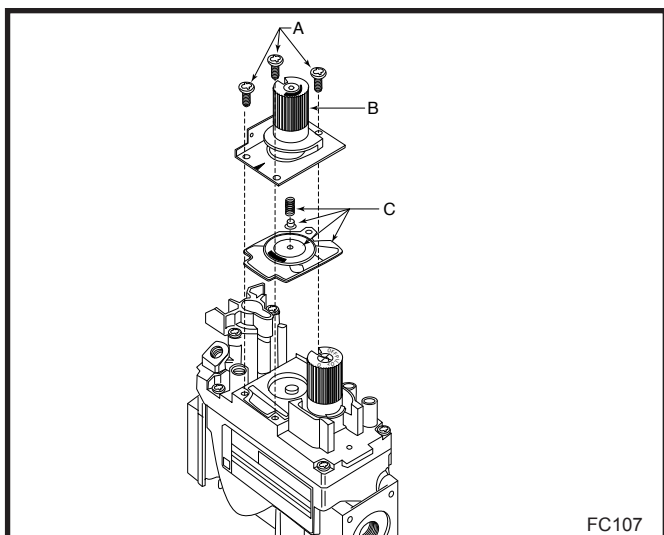

Fig. 51 Remove mounting screws, pressure regulator tower and spring and diaphragm assembly.
1. Using TORX T20 bit, remove and discard the three (3) pressure regulator mounting screws (A), pressure regulator tower (B) and the spring and diaphragm assembly (C). (Fig. 51)